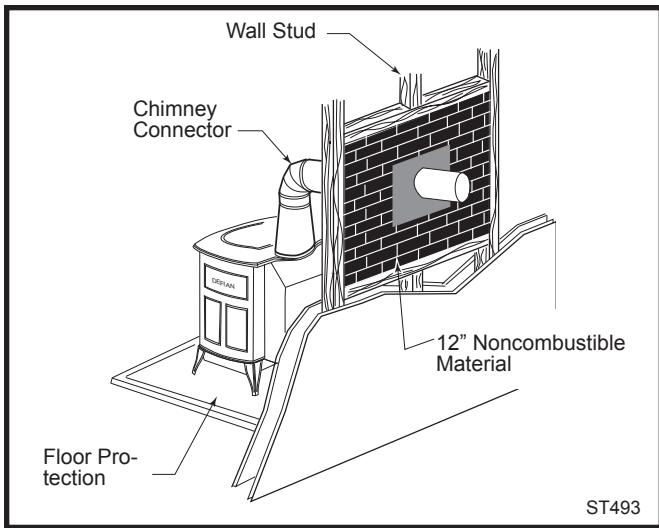

Fig. 10 An approved wall pass-through for the United States.
Figure 10 shows one NFPA-recommended method. All combustible material in the wall is cut away from the single-wall connector to provide the required 12" (305mm) clearance. Any material used to close up the opening must be noncombustible.
**In Canada**, The Canadian Standards Association has established different guidelines. Figure 10 shows one method, in which all combustible material in the wall is cut away to provide the required 18" (457mm) clearance for the connector. The resulting space must remain empty. A flush-mounted sheet metal cover may be used on one side only. If covers must be used on both sides, each cover must be mounted on noncombustible spacers at least 1" (25mm) clear of the wall.